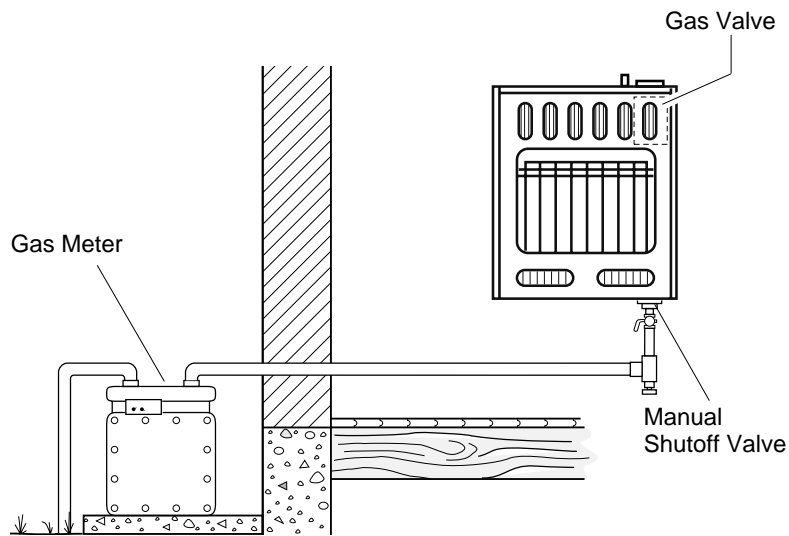

Figure 14 - Checking Gas Joints
3. Check all joints from gas meter to manual shutoff valve (see Figure 14). Apply mixture of liquid soap and water to gas joints. Bubbles forming show a leak.
4. Check all joints from manual shutoff valve to thermostat gas valve (see Figure 14). Apply mixture of liquid soap and water to gas joints. Bubbles forming show a leak.